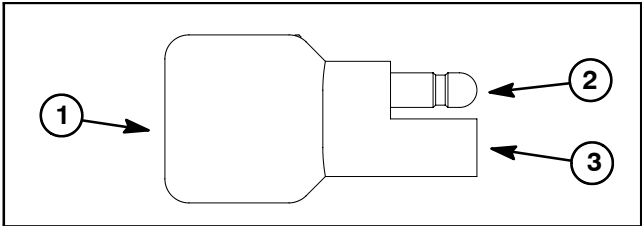

Figure 15
- 5. The diode (Fig. 15) can be tested using a digital multimeter (diode test or ohms setting) and the table in the right column.